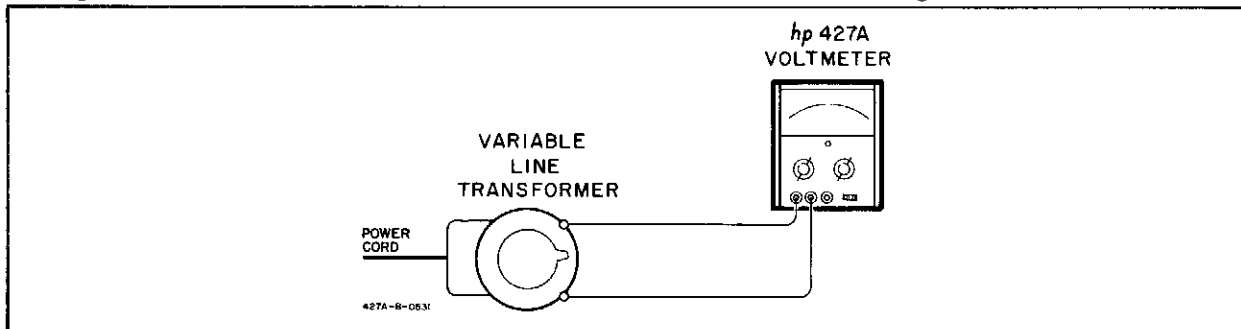

Figure 5-4. AC Rejection Check
- b. Switch the FUNCTION to ACV and the RANGE to 10. Connect the variable line transformer and the Model 427A as shown in Figure 5-4.